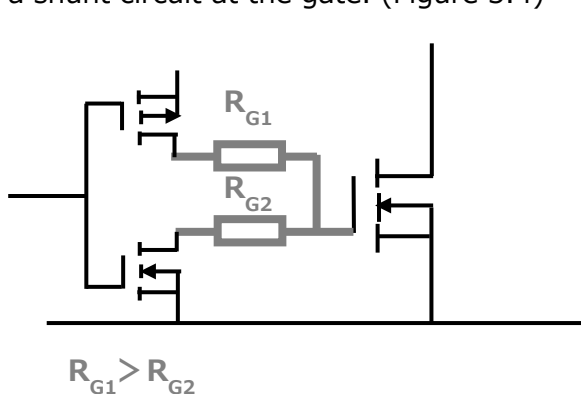

Figure 3.2 Using separate gate resistors for turn-on and turn-off
- Reduce the dv/dt rate during turn-on. (Increase the turn-on resistance.) (Figure 3.2)
- Reduce R_G during turn-off. (Reduce the turn-off resistance.) (Figure 3.2)